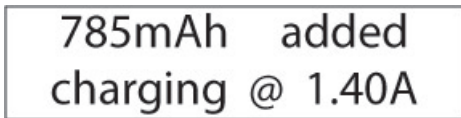

Figure 3
3.The third data screen (*Figure 3*) shows the mAh the have been supplied to the pack thus far, as well as the charge rate in Amps.